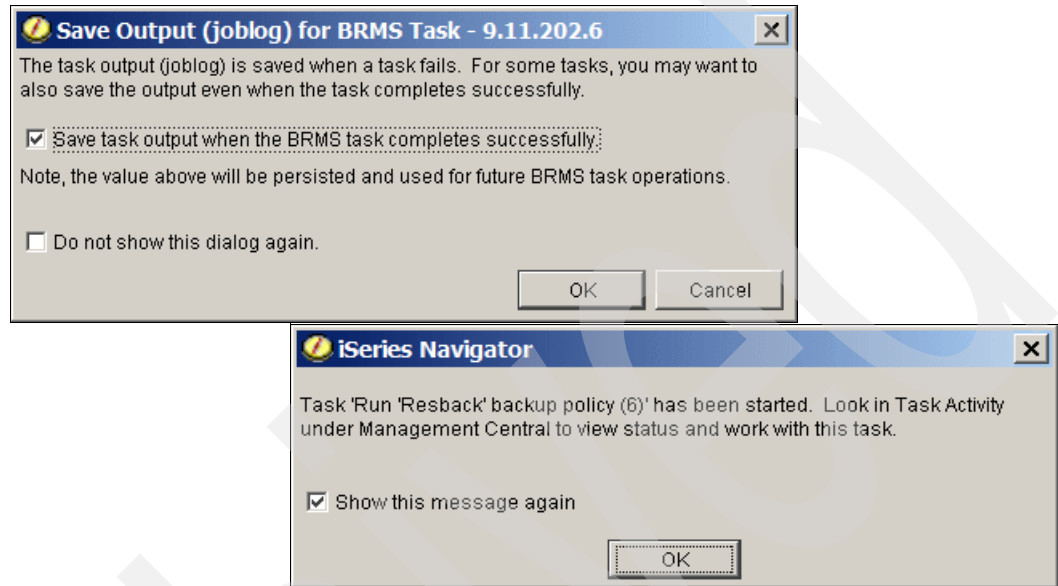

Figure 6-33 Run backup policy - further messages
- Next you are presented a window where you select if you want to save the output of this BRMS task, even if the task is successful. In our example we specify to save output, as can be seen in Figure 6-33. Click **OK** after making the selection.
- A window is displayed, informing you that the backup task has started. On this window, click **OK**. See Figure 6-33.